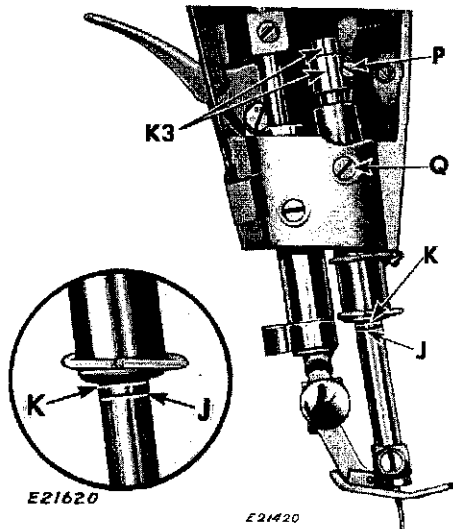
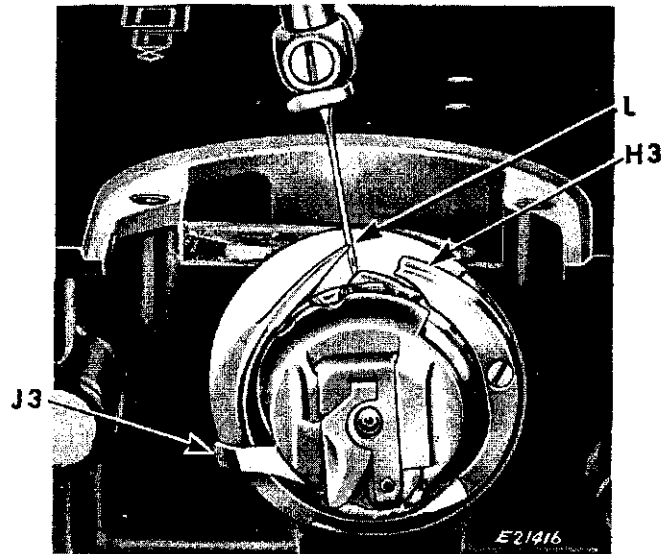
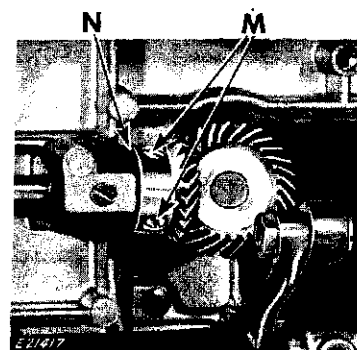
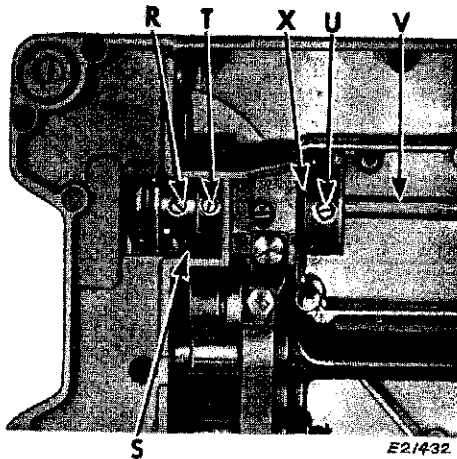

Fig. 6. Timing Rotating Hook
Fig. 7. Relation of Needle to Rotating Hook
Fig. 8. Adjusting Gears For Correct End Play
Fig. 9. Removing and Replacing Rotating Hook and Replacing Hook Shaft
1. Remove presser foot and throat plate. (Feed dog has been removed in Figs. 6 and 7 for clearer view, but it need not be removed to time rotating hook.)
2. Turn hand wheel over toward you until lower timing mark J, Fig. 6 on needle bar is aligned with lower end of the needle bar bushing at K on upward stroke of needle bar
3. If needle bar is at correct height and in position described in paragraph 2 above, and if hook is correctly timed, then point of hook should be at center of needle and approximately 1/16" above eye of needle as shown at L, Fig. 7. Gib H3 of rotating hook is shown broken away and bobbin case base is moved around so that position finger J3 is out of the way in Fig. 7 for clearer view of needle and point of hook.
2. Loosen two set screws M, Fig. 8 in gear at right hand end of hook shaft
3. Turn hook until its point is in proper relation to needle as explained above and shown in Fig. 7
4. Tighten two screws M, Fig. 8, maintaining proper backlash to ensure correct gear mesh
NOTE: Hub of gear should never bear against face of bushing at N, Fig. 8
To set needle bar at the correct height, the rotating hook must first be timed correctly as described on page 5. Then turn the hand wheel over toward you until the needle bar reaches its lowest point as shown in Fig. 6. With the needle bar in this position, the upper timing mark should be in alignment with the lower end of the needle bar bushing as shown at K, Fig. 6.
If the needle bar is not set at the correct height, loosen the screw P, Fig. 6 behind the face plate and move the needle bar up or down until the correct setting is acquired and then securely tighten the screw P.
The needle bar bushing is accurately set at the factory and needs no adjustment. If its position has been disturbed, however, turn the hand wheel over toward you until the point of the hook, on the upward stroke of the needle bar, is at the center of the needle and approximately 1/16" above the eye of the needle as shown in Fig. 7. Loosen the bushing set screw Q, Fig. 6 and move the bushing up or down until the lower timing mark J, Fig. 6 on the needle bar aligns with the lower end of the bushing at K, Fig. 6. Then tighten the set screw Q.
1. Adjust the needle bar bushing until the recess in the bushing is visible through the set screw hole for the screw Q, Fig. 6.
3. Loosen the clamp screw P, Fig. 6 of the needle bar
4. Adjust the needle bar so that the upper timing mark aligns with the bottom of the needle bar bushing as shown at K, Fig. 6, then tighten the needle bar clamp screw P, Fig. 6
5. Loosen the gear screws M, Fig. 8
6. Turn the hand wheel over toward you so that, on the upward stroke of the needle bar, the lower timing mark J, Fig. 6 aligns with the bottom of the needle bar bushing at K, Fig. 6
7. Rotate the hook manually until the hook point is at the center of the needle blade as shown at L, Fig. 7, and then tighten the gear screws M, Fig. 8
8. Turn the hand wheel over toward you until the hook point is at the center of the needle (on the upward stroke of the needle bar) and the lower timing mark aligns with the bottom of the needle bar bushing. (This is to serve as a check on operation 7 above.) Loosen the needle bar clamping screw P, Fig. 6 and move the needle bar up or down until the eye of the needle is approximately 1/16" below the point of the hook. Turn the needle bar until the positioning marks K3, Fig. 6 on the needle bar and the needle bar clamp are in alignment. Tighten the screw P in the needle bar clamp.
10. Loosen the needle bar bushing set screw Q, Fig. 6 and move the bushing up or down until the bottom of the bushing aligns with the upper timing mark on the needle bar as shown at K, Fig. 6, and tighten the screw Q
1. Set and tighten screw T, Fig. 9 of collar so that left hand end of shaft projects  $15/32$ " beyond left hand edge of collar
2. Take out end play by setting counterbalance against bushing at X, Fig. 9, pushing collar and counterbalance toward each other, and tightening screw U, Fig. 9 in counterbalance
3. Replace rotating hook on shaft, with set screw R, Fig. 9 (which is on same side of hub as hook point) against flat of hook shaft. Then, while keeping hub of hook against shaft collar, tighten screw R, Fig. 9 which engages flat and then tighten screw on other side of hub. Set gear at right hand end of shaft with clearance between gear hub and bushing, and tighten two screws M, Fig. 8
2. Loosen two screws, only one of which is visible at R, Fig. 9 in hub of hook
1. Turn hand wheel over toward you until flat on hook shaft is visible through opening S, Fig. 9
2. Place hook on shaft so that set screw R, Fig. 9, on same side of hub as point of hook, is set on flat of hook shaft
2. Loosen screw T, Fig. 9 in shaft collar, and screw U, Fig. 9 in counterbalance so that they slide freely on shaft V, Fig. 9
3. Loosen two screws M, Fig. 8
6. Use new shaft (with flats at left end) to push out old shaft from right to left. Insert new shaft through opening in casting from which two pin terminal was removed. Be sure that end of shaft with two flats (for rotating hook screw R, Fig. 9 and shaft collar T and for counterbalance screw U) is at the left